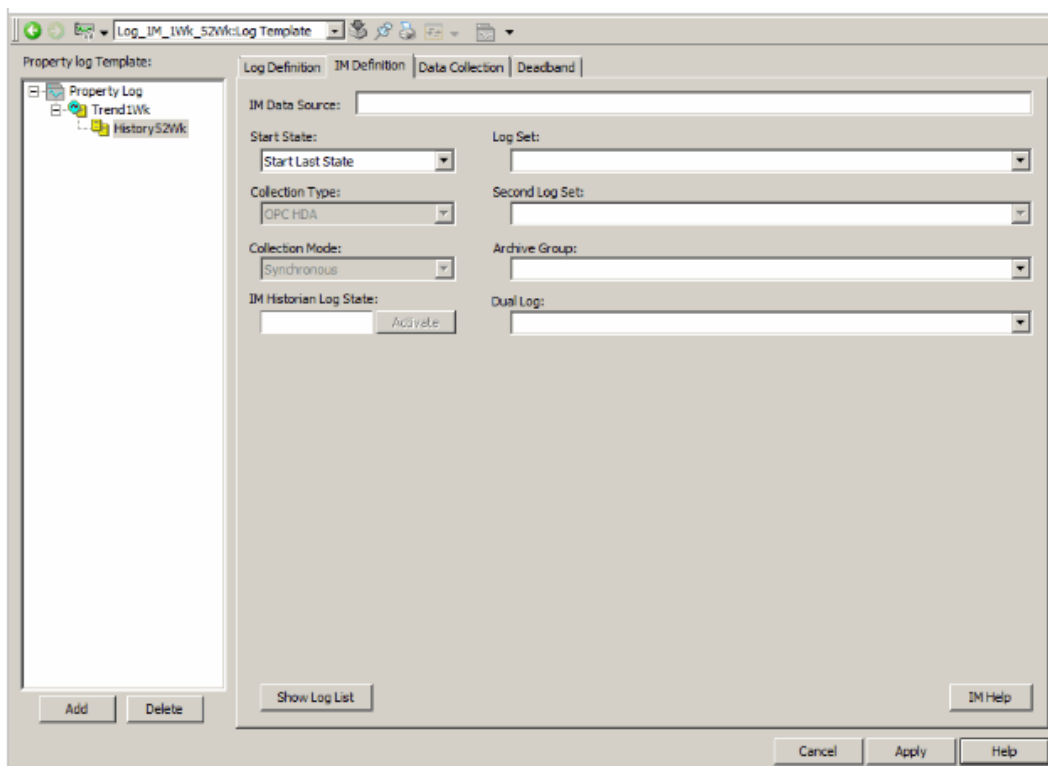

Figure 128. IM Definition Tab
2. Click the IM Definition tab, Figure 128.